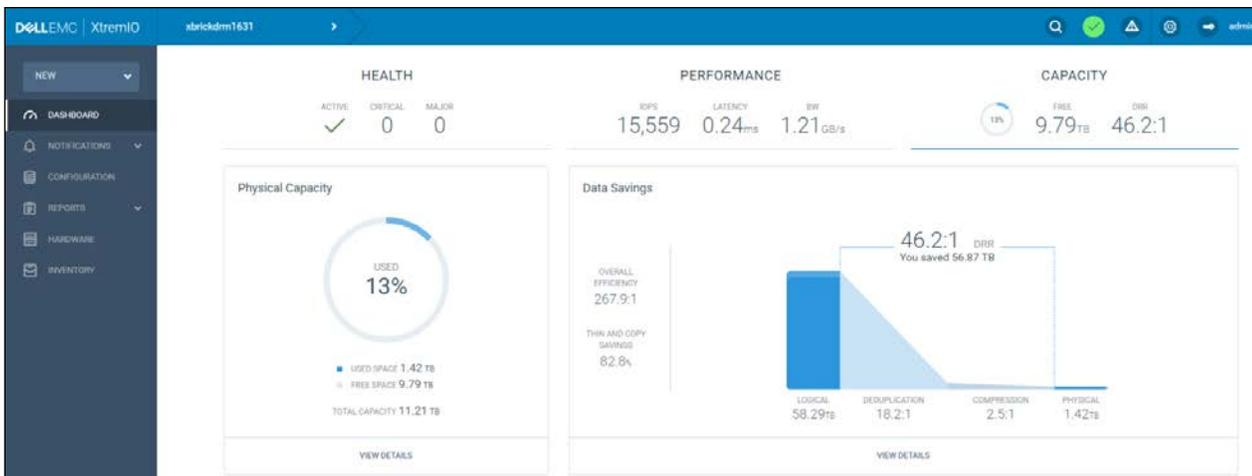

Figure 8. XtremIO Web UI – Dashboard – Capacity Panel
3. Capacity (shown in Figure 8): Provides an overview of the system's physical capacity and data savings. Note that these figures represent views available in the dashboard and not test results shown in earlier figures.